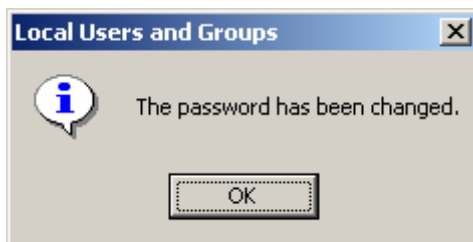

Figure 2-94 [Local Users and Groups] dialog box
- 3) The [Local Users and Groups] dialog box is displayed. You are prompted that the password has been changed. Click <OK>. See Figure 2-94.